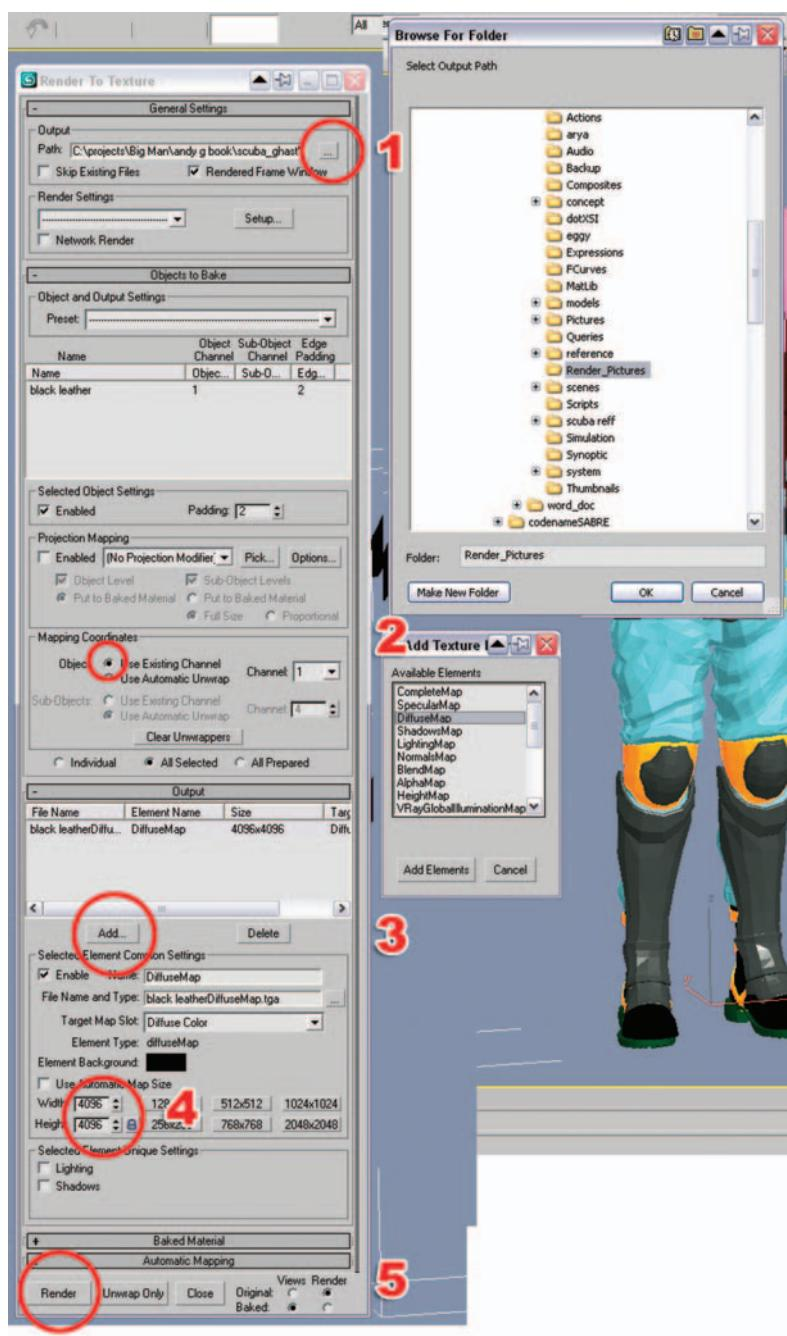

Figure 7.118
- Hit render (see Figure 7.118).